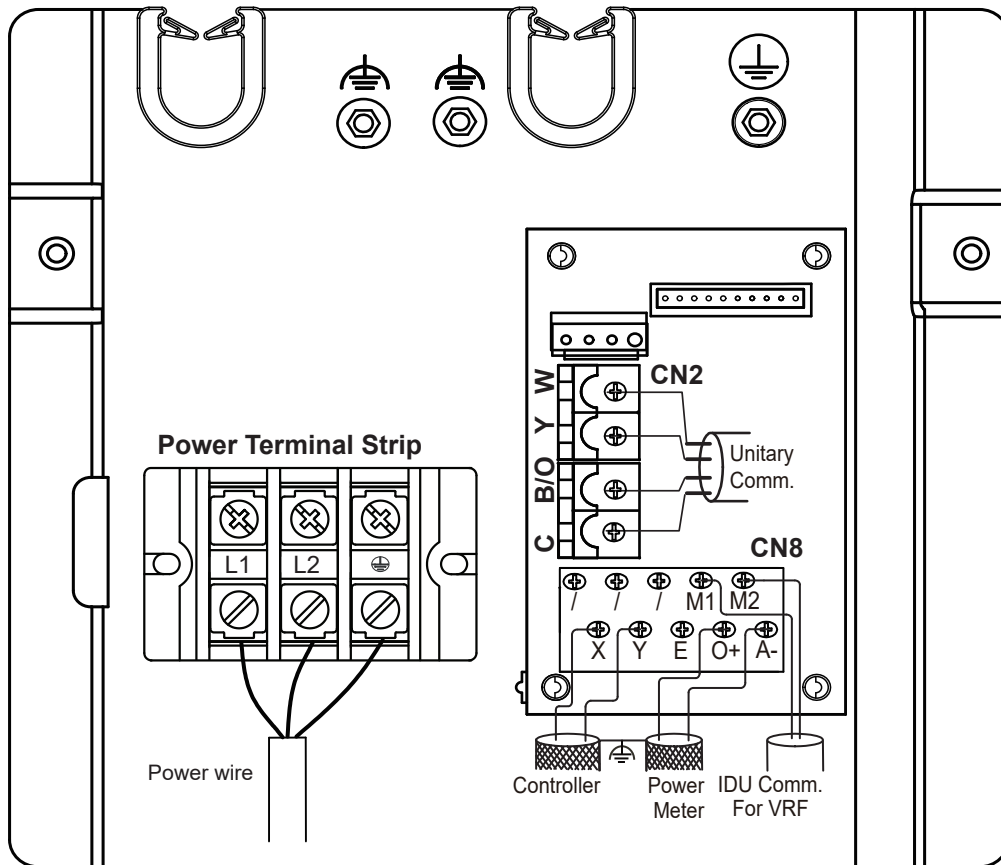

Figure 16-1
1. It is forbidden to connect the power cable to the communication terminal, otherwise the control board will be damaged. See Figure 16-1